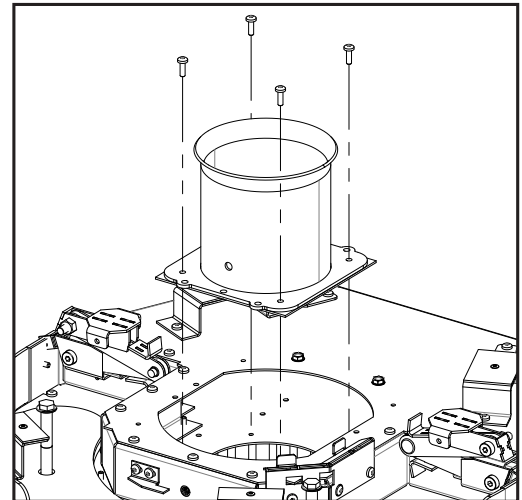

Figure 69: Exhaust Spigot Removal
8. Remove the exhaust spigot from the top of the unit by removing the four (4) T20 screws (see Figure 69). Be delicate with the gasket, you will be reusing this.